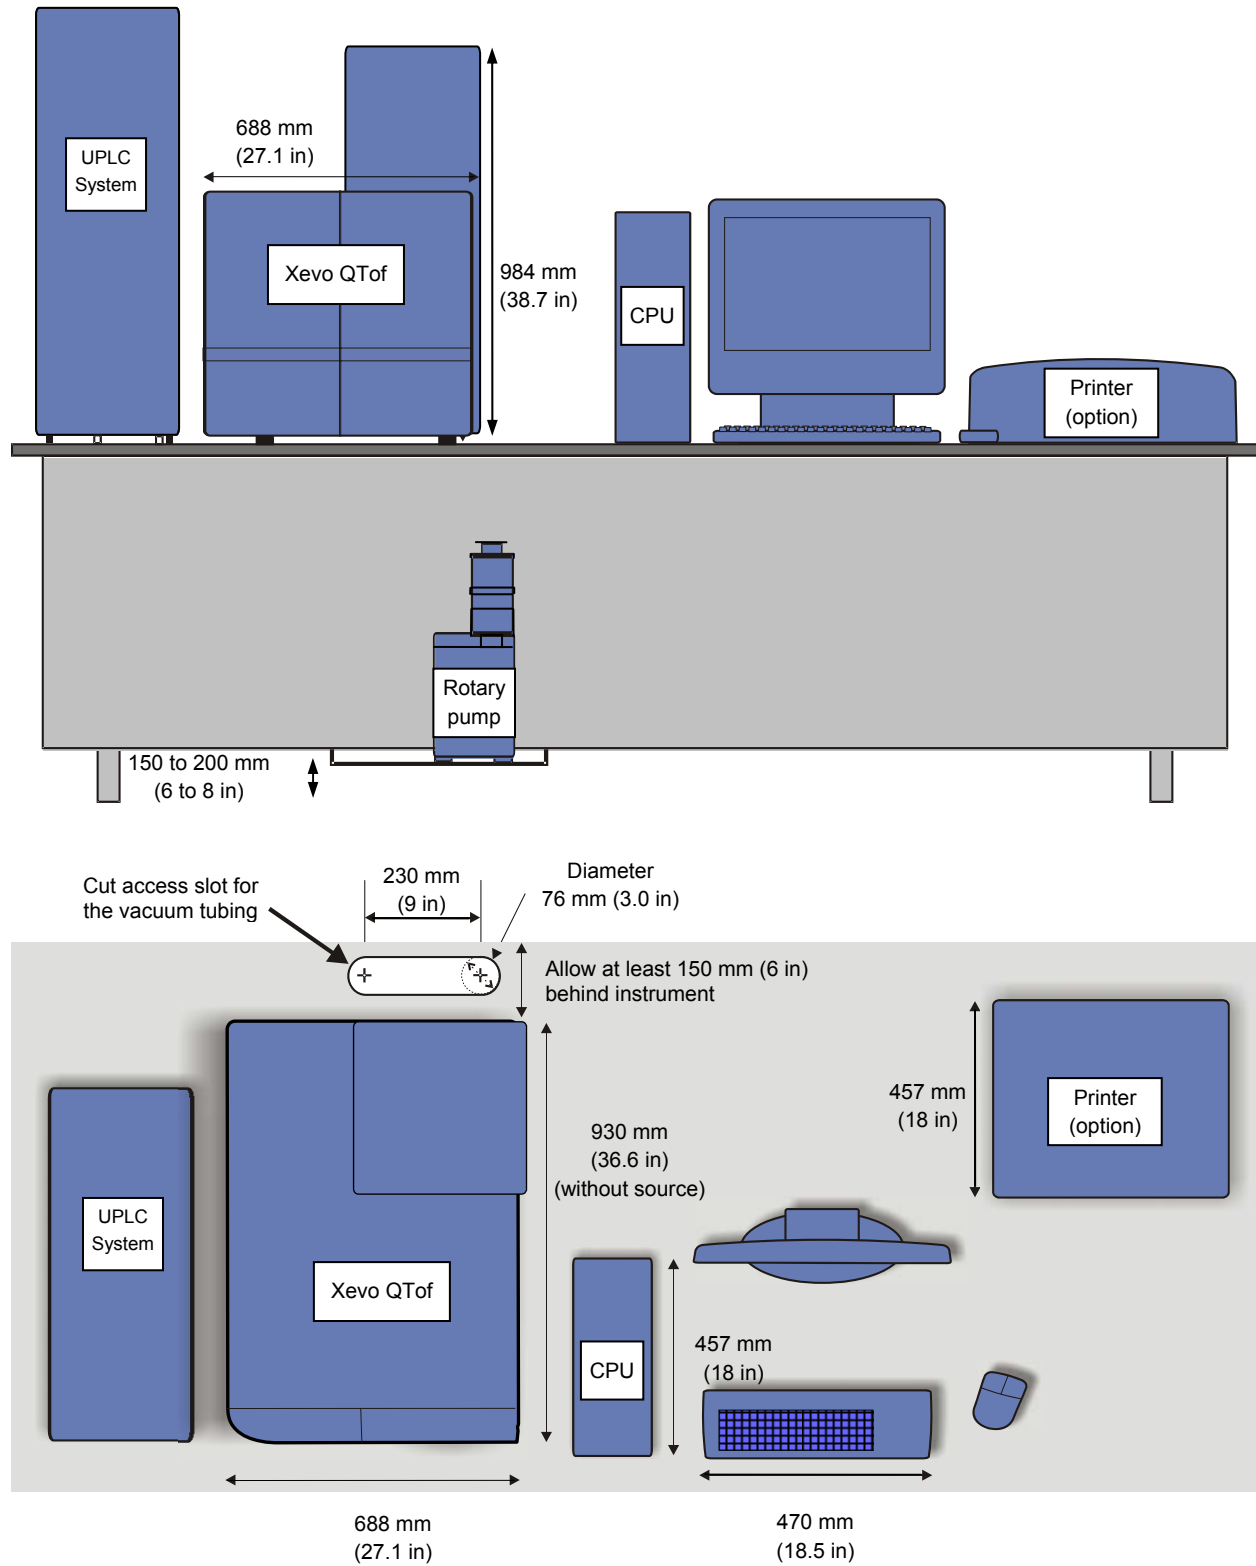

Figure 4 - Plan and front views showing a typical layout
**NOTE:** *If the external pump is positioned under the instrument bench, it may be necessary to cut an access slot (diameter 76 mm, 3 in) in the bench top to allow the tubing to be passed through to the instrument (Figure 4).*